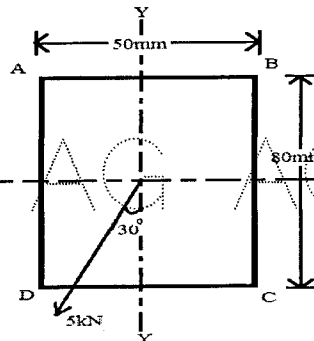

Figure: 2
- b) A rectangular-section beam $80\text{ mm} \times 50\text{ mm}$ is arranged as a cantilever 1.3 m long and loaded at its free end with a load of 5 kN inclined at an angle of 30° to the vertical as shown in Figure 2. Determine the position and magnitude of the greatest tensile stress in the section. Take $E = 210\text{ GN/m}^2$. [4+6]